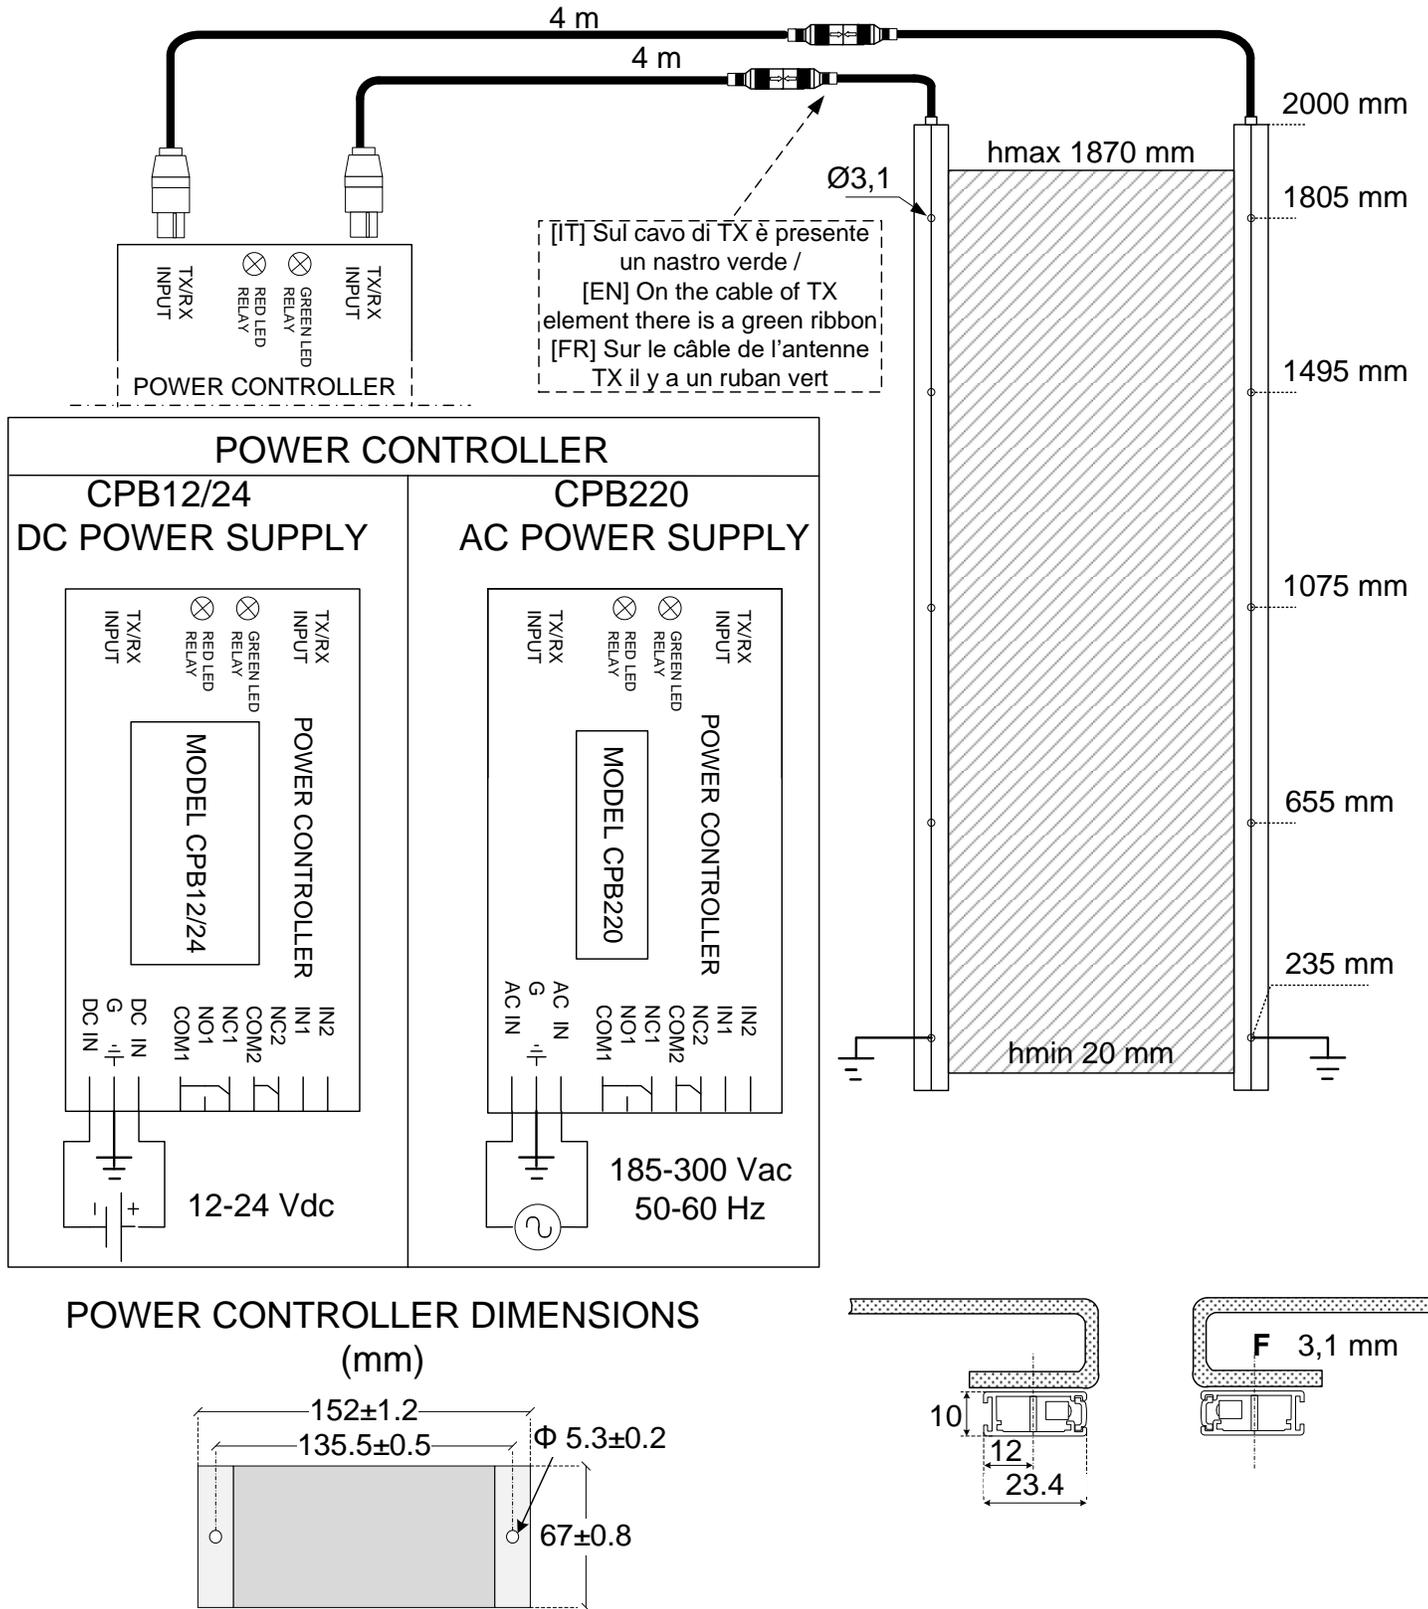

Fig.1 [IT] Montaggio e collegamento / [EN] Mounting and connection / [FR] Installation et branchement
5. Collegare i cavi RX e TX della barriera come mostrato in Fig.1;
8. Collegare la tensione di alimentazione opportuna: vedi Fig.1.
5. Connect RX and TX cables as shown in Fig.1;
8. Connect the appropriate power supply: see Fig.1;
5. Brancher les câbles comme en Fig.1 ;
8. Branchez la tension d'alimentation appropriée. Voir Fig.1